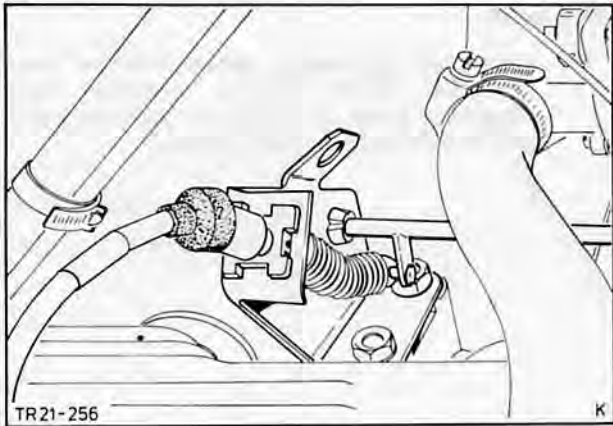

Fig. 137. Unhook throttle cable and remove with bracket
3. Disconnect brake servo vacuum hose from inlet manifold connection. Unhook throttle cable at throttle linkage and remove with bracket, Fig. 137.